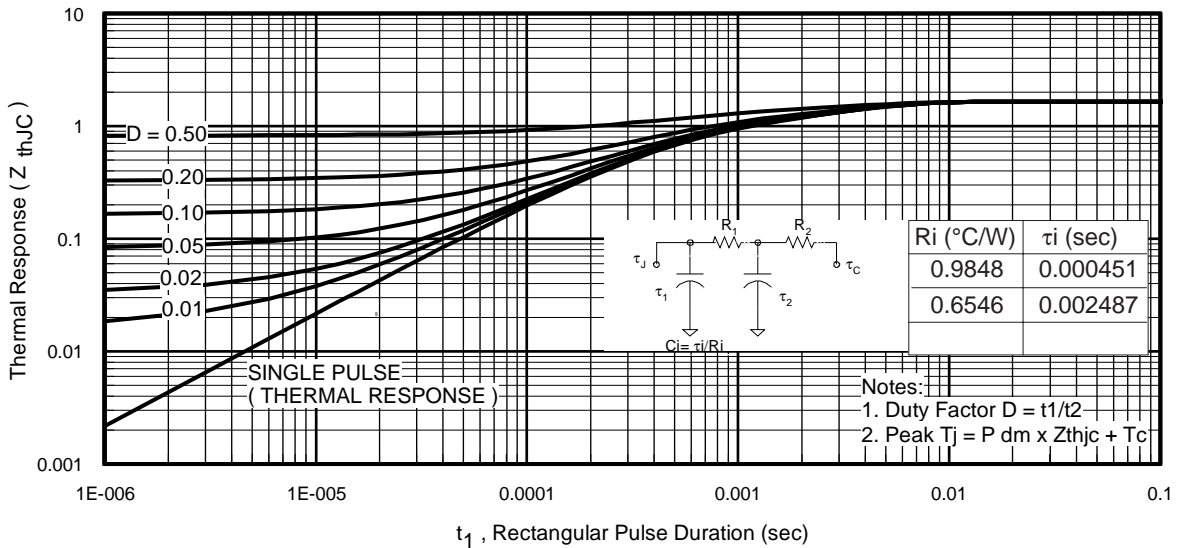
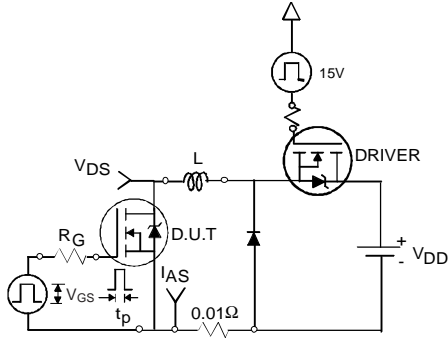

Fig 11. Maximum Effective Transient Thermal Impedance, Junction-to-Case
Fig 12a. Unclamped Inductive Test Circuit
- ① Repetitive rating; pulse width limited by max. junction temperature. (See fig. 11).
- ② Limited by T_{Jmax} , starting $T_J = 25^\circ\text{C}$, $L = 0.11\text{mH}$, $R_G = 25\Omega$, $I_{AS} = 37A$, $V_{GS} = 10V$. Part not recommended for use above this value.
- ③ $I_{SD} \leq 37A$, $di/dt \leq 920A/\mu s$, $V_{DD} \leq V_{(BR)DSS}$, $T_J \leq 175^\circ\text{C}$.
- ④ Pulse width $\leq 1.0\text{ms}$; duty cycle $\leq 2\%$.
- ⑤ $C_{oss\ eff.}$ is a fixed capacitance that gives the same charging time as C_{oss} while V_{DS} is rising from 0 to 80% V_{DSS} .
- ⑥ Limited by T_{Jmax} , see Fig.12a, 12b, 15, 16 for typical repetitive avalanche performance.
- ⑦ This value determined from sample failure population. 100% tested to this value in production.
- ⑧ This is applied to D²Pak, when mounted on 1" square PCB (FR-4 or G-10 Material). For recommended footprint and soldering techniques refer to application note #AN-994.
3. Equation below based on circuit and waveforms shown in Figures 12a, 12b.
$Z_{thJC}(D, t_{av})$ = Transient thermal resistance, see figure 11)